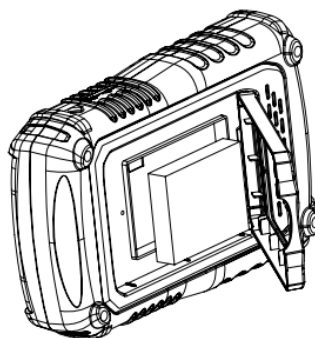

Figure 3
3. Put battery into the battery bin stably, as figure 3 shows.
4. Cover the battery cap, and tightly twist the two screws which are dismantled from the battery cap forward, such as figure 3 shows.